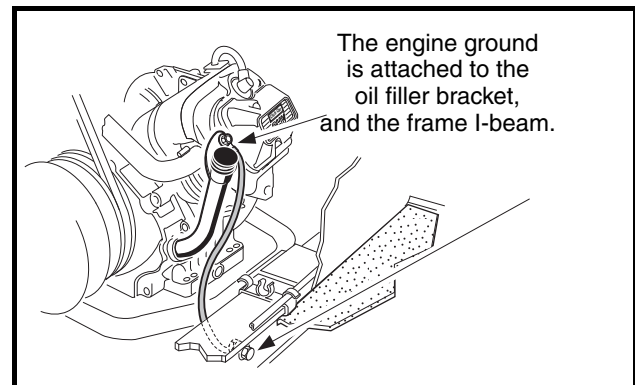

Figure 11-9 Test Engine Ground Strap
- 4.1. Place the red (+) probe of the multimeter on the ground strap terminal end located on the oil filler bracket on the engine (**Figure 11-9, Page 11-14**). Place the black (-) probe on the vehicle frame. The reading should be continuity. If the reading is incorrect, clean and tighten wire connections. If the connections are good and the reading is incorrect, repair or replace the wire.